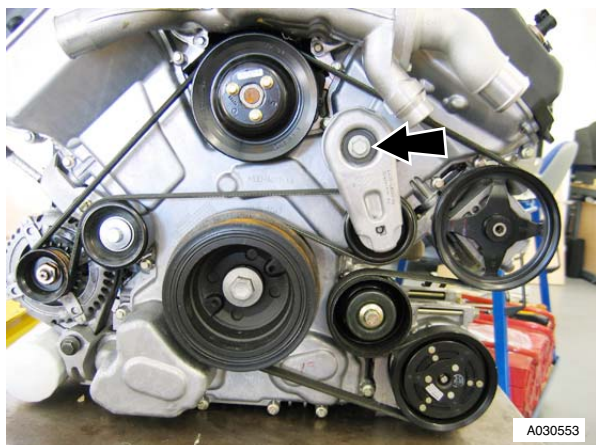

Figure 1
4. Release the tensioner and remove the belt from the idler (see Figure 1).
5. Remove the bolt (2) that attaches the idler (1) to the engine (refer to Figure 1)..